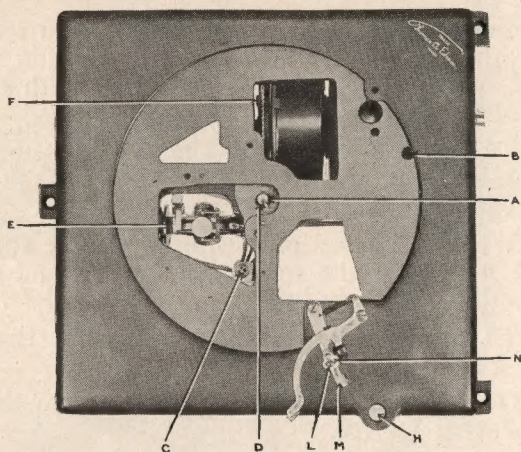

Fig. 6
(Fig. 6)
- (g) When proper adjustment is attained, again remove Reproducer and turn-table, as above, and tighten set screw (L, Fig. 6).
See (Fig. 6).
B (Fig. 6) Oil cup (fill with oil).
C (Fig. 6) Oil cup (fill with oil).
D (Fig. 6) Upper spindle bearing (oil freely).
E (Fig. 6) Governor frictions (1 or 2 drops on each).
F (Fig. 6) Oil tube to spring sleeve (oil freely). Right hand spring barrel in double spring motor has an oil tube in the spring sleeve.
H (Fig. 6) Operating handle bearing (3 or 4 drops).